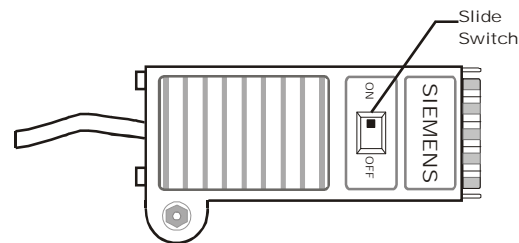

FIG. 74: PROFIBUS DB9 SERIAL CONNECTOR WITH SLIDE SWITCH/MALE
- Profibus Cable with DB9 Serial Connectors on both ends. It is recommended that you use a Serial Connector with a slide switch to terminate an instrument that is located at the end of a Fieldbus (Profibus) Network. (See Fig. 74)